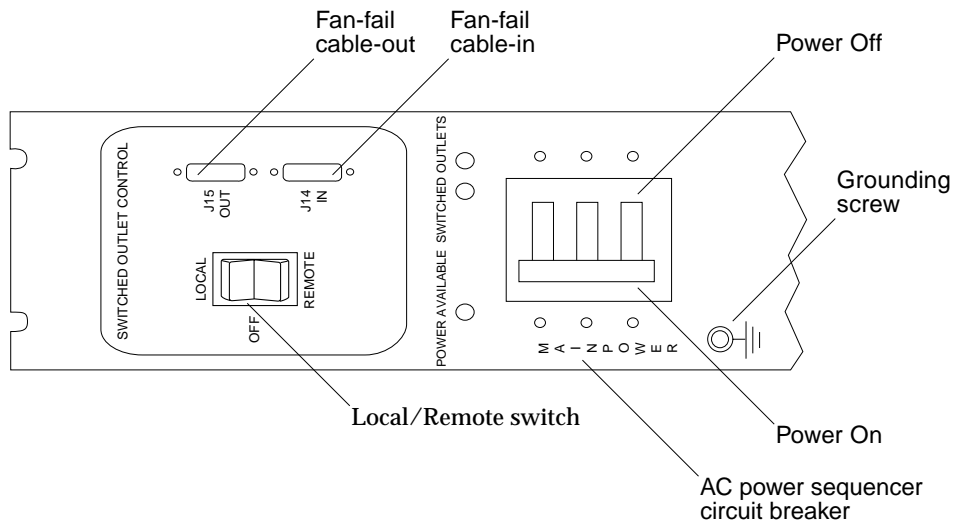

FIGURE 2-3 Power Sequencer Control Panel
2. Verify that each AC power sequencer circuit breaker is in the Off position and the Local/Remote switch is in the Local position (FIGURE 2-3).